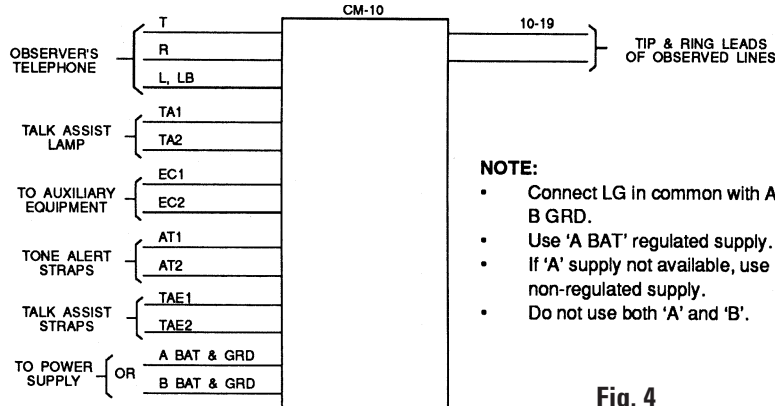

Fig. 4
4.01 Special installation tools are not required. Mount the CM-10 in an apparatus cabinet, relay rack, or on a wall. Connect the CM-10 plug to a 25-pair connector cable and secure it with the clamps and screws provided. Plug in power supply Dees Model 368 (or tie down as in Figures 4 and 5).
4.02 Cross connect as shown in Figures 4 and 5.